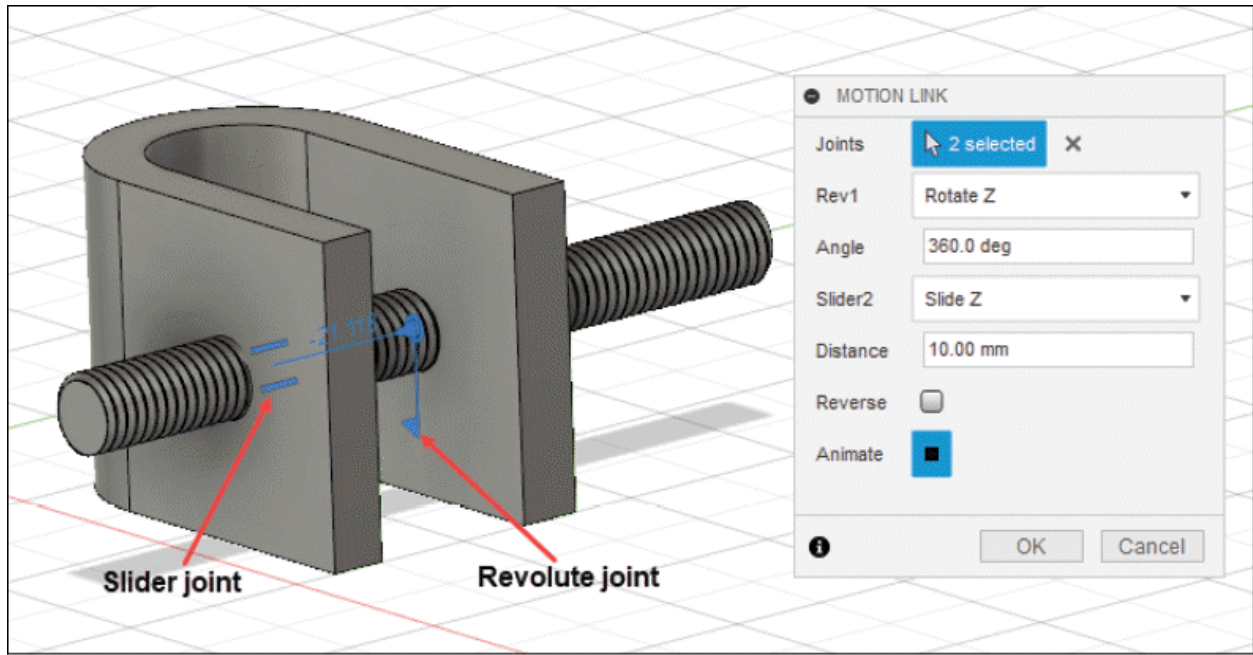

Figure-49. Selection of joints for Motion Link
- On selecting the two joints, the animation of vice will start and the dialog box will be updated; refer to Figure-49.